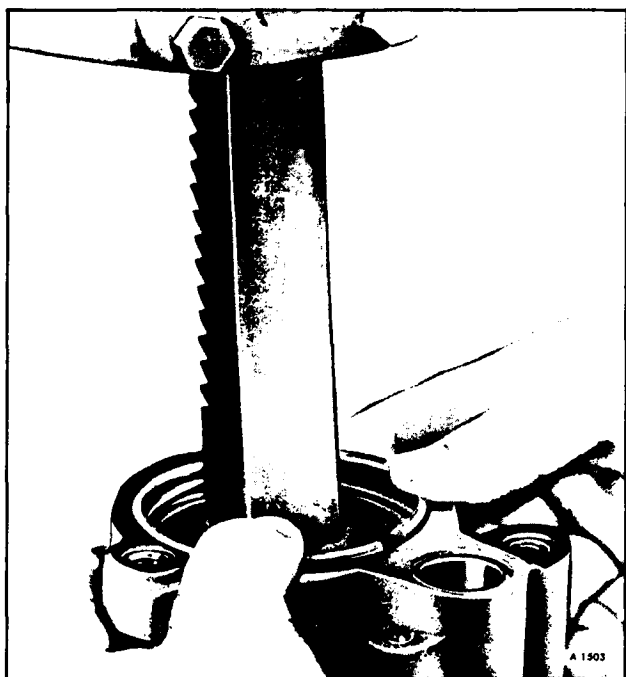

Figure 21—Installation of End Plate Retaining Spring
12. Lubricate end plate with Power Steering Fluid so as not to damage "O" ring and press into housing with an arbor press (figure 21). Depress only far enough to enable retaining ring to seat properly in groove.